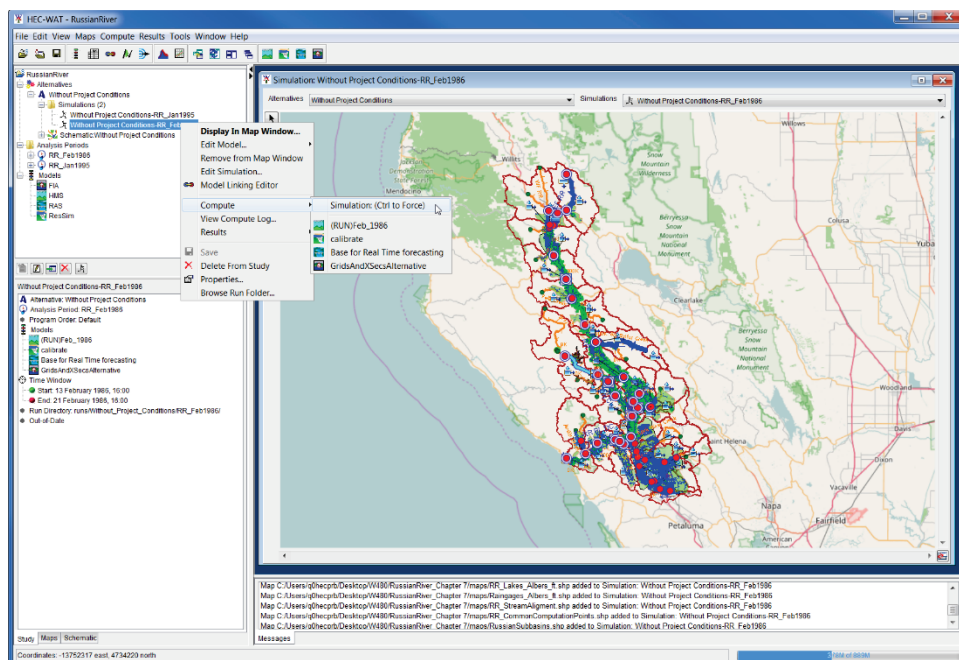
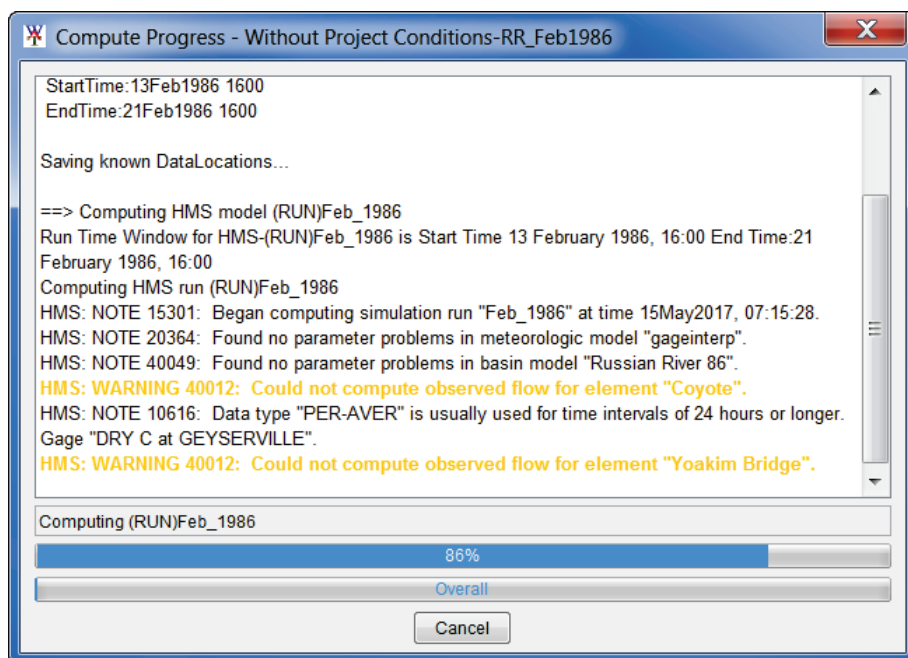
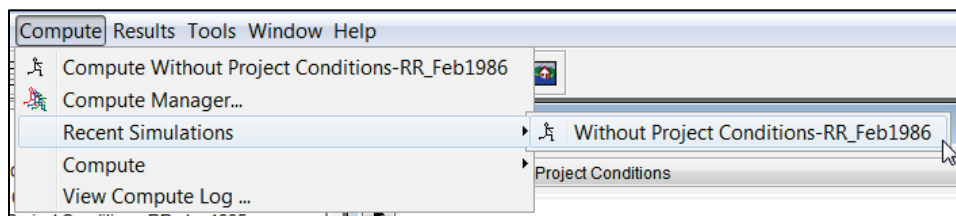
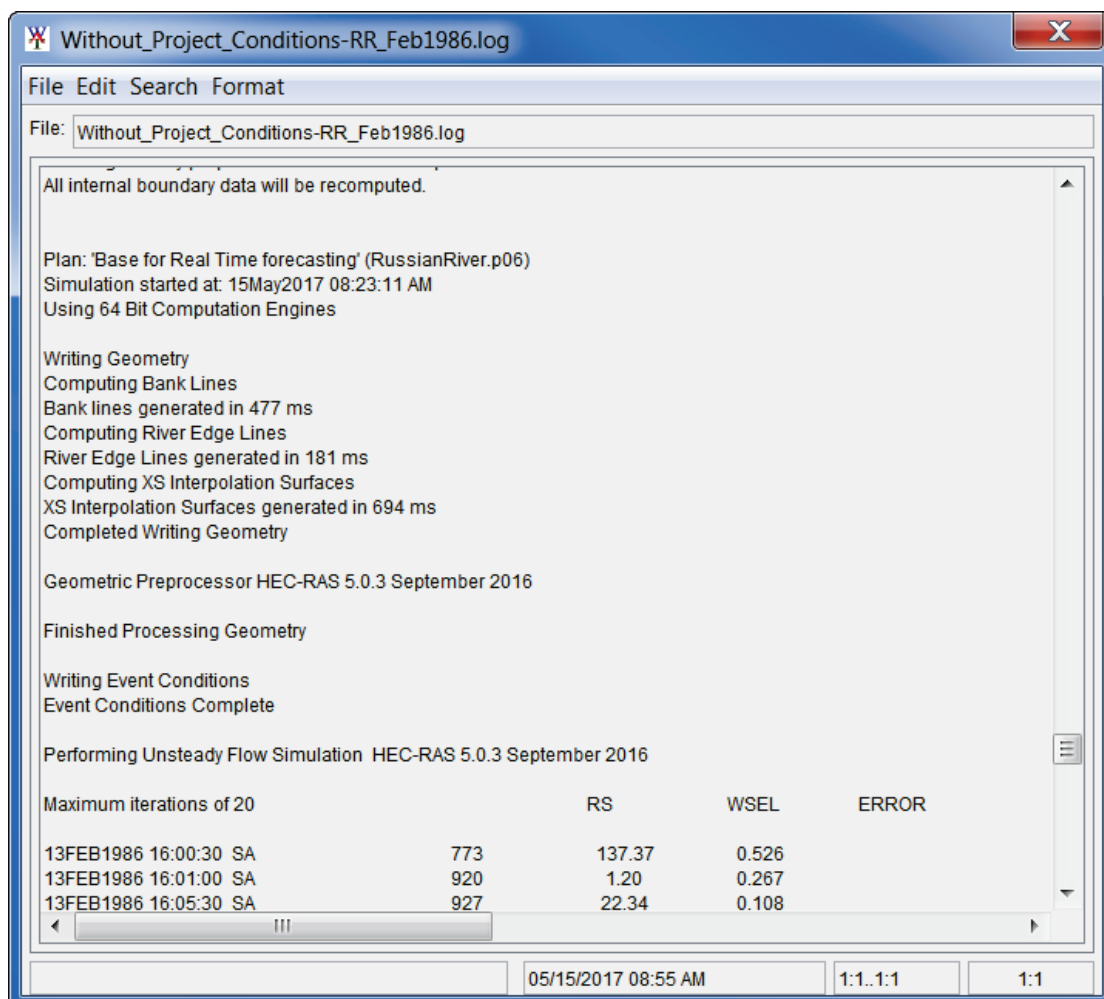

Figure 14.1 HEC-WAT Main Window
Figure 14.2 Compute Progress Dialog Box
Figure 14.3 HEC-WAT Main Window – Compute Menu
Figure 14.7 Compute Log Editor
1. From the HEC-WAT main window (Figure 14.1), from the **Study Tree**, from the **Simulations** folder, right-click on a simulation (e.g., *Without Project Conditions-RR\_Feb1986*). From the shortcut menu (Figure 14.1) point to **Compute**, hold down the **CTRL** key, click **Simulation**.
3. The **Compute Progress** dialog box will open (Figure 14.2). When the compute is finished, click **Close**, the **Compute Progress** dialog box will close (Figure 14.2).
From the HEC-WAT main window (Figure 14.1) from the **Compute** menu (Figure 14.3), the user can compute a single simulation from different commands. If a simulation is active (displayed in a **Simulation Map Window** in the **Desktop Pane**), then the first item in the **Compute** menu will be that simulation's name (e.g., *Without Project Conditions-RR\_Feb1986*), hold down the **CTRL** key, click on the simulation, the **Compute Progress** dialog box will open (Figure 14.2) and the compute will start.
Alternately, from the **Compute** menu (Figure 14.3), point to **Recent Simulations**, a list of recently computed simulations will display. Hold down the **CTRL** key, click on the simulation that is to be computed. The **Compute Progress** dialog box will open (Figure 14.2) and the compute will start.
Finally, from the **Compute** menu (Figure 14.3), point to **Compute**, hold down the **CTRL** key, click **Simulation**, the **Compute Progress** dialog box will open (Figure 14.2), and the **Compute Progress** dialog box will open (Figure 14.2) and the compute will start. This will compute the active simulation (displayed in a **Simulation Map Window** in the **Desktop Pane**).
1. From the **Compute** menu (Figure 14.3), click **Compute Manager**, the **Compute Manager** dialog box will open (Figure 14.4).
5. For each simulation that is computed, a **Compute Progress** dialog box will open (Figure 14.2). When computing several simulations at once, many **Compute Progress** dialog boxes will be visible. The user can turn off the appearance of the **Compute Progress** dialog boxes by clicking **Close Progress Windows** (Figure 14.4).
6. Once the simulations have been selected in the **Computer Manager** dialog box (Figure 14.4), click **Compute**, a **Compute Progress** dialog box (Figure 14.2) will open for each simulation as that simulation starts to compute.
The user can compute individual model alternatives from the HEC-WAT framework from several different places. From the HEC-WAT main window (Figure 14.1), from the **Study Tree**, from the **Simulations** folder, right-click on a simulation (e.g., *Without Project Conditions-RR\_Feb1986*). From the shortcut menu (Figure 14.1) point to **Compute**, from the sub-menu the user can choose which available model alternative to compute. The **Compute Progress** dialog box will open (Figure 14.2) and the compute will start.
From the HEC-WAT main window (Figure 14.1), from the **Compute** menu (Figure 14.3), point to **Compute**, from the sub-menu the user can choose which available model alternative to compute. The **Compute Progress** dialog box will open (Figure 14.2) and the compute will start.
From the HEC-WAT main window (Figure 14.1), the user needs to select a simulation from the **Study Tree**, under the **Simulation** folder. The **Content Pane** (Figure 14.5) contains information about the selected simulation, including what model alternatives are part of the simulation. From a model alternative, right-click, from the shortcut menu click **Compute**. The **Compute Progress** dialog box will open (Figure 14.2) and the compute will start.
The user can compute a simulation through an individual model alternative from the **Study Tree**, from the **Simulations** folder, right-click on a simulation (e.g., *Without Project Conditions-RR\_Feb1986*). From the shortcut menu (Figure 14.1) point to **Compute**, from the sub-menu, click on the model alternative where the compute will stop. The **Compute Progress** dialog box will open (Figure 14.2) and the compute will start. The user can perform the same function from the **Compute** menu (Figure 14.3). If previous model alternatives have been computed and not changed, those model alternatives will be skipped.
1. From the HEC-WAT main window (Figure 14.1), from the **Study Tree**, from the **Simulations** folder, right-click on a simulation, from the shortcut menu (Figure 14.6), click **View Compute Log**. Also, from the **Compute Menu** (Figure 14.3), click **View Compute Log** – this command is only available when there is an active simulation (displayed in a **Simulation Map Window** in the **Desktop Pane**). Both methods open the **View Compute Log Editor** (Figure 14.7).
3. From the **File** menu, click **Close**, the **Compute Log Editor** will close (Figure 14.7).